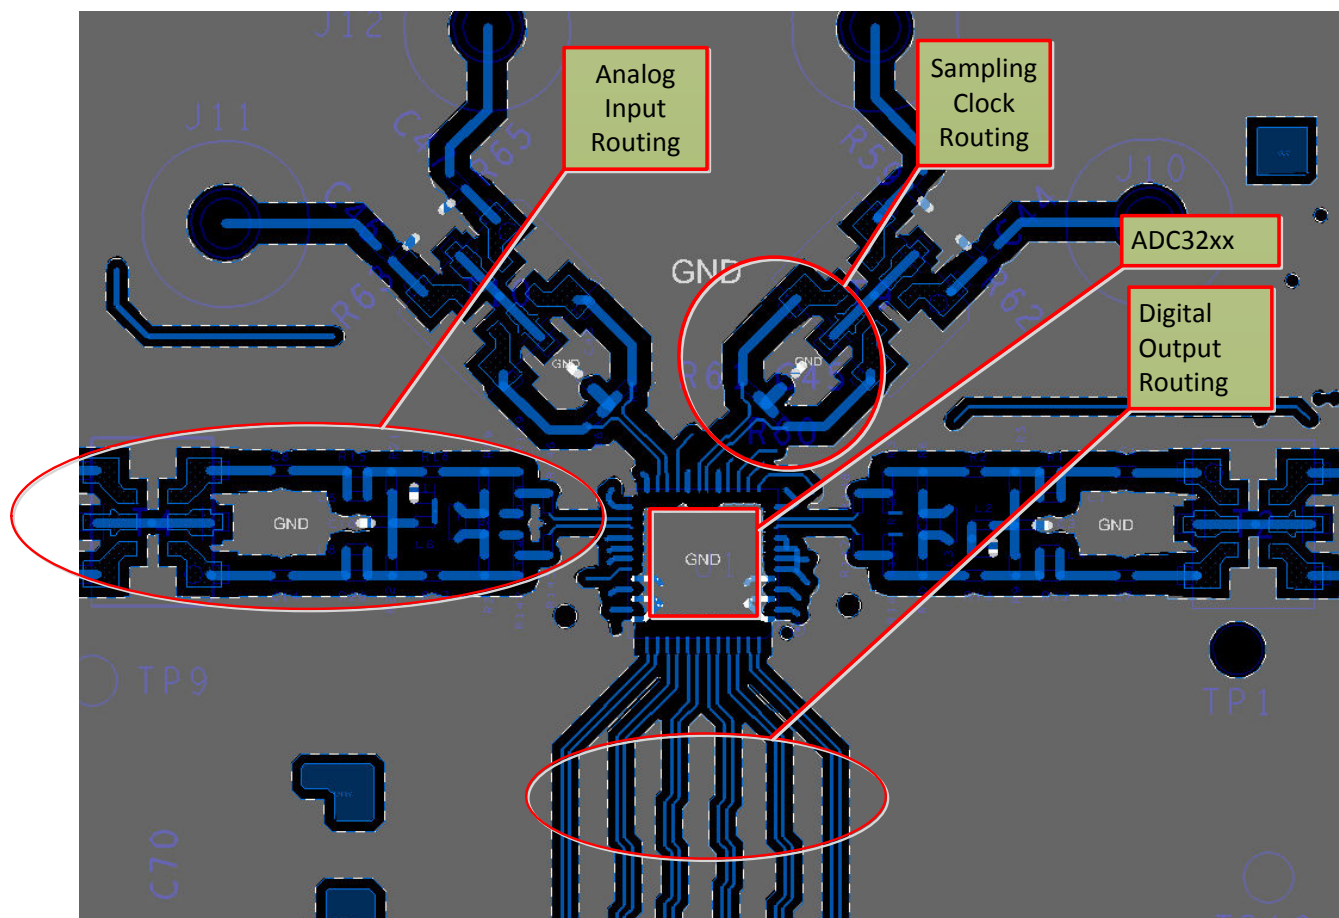

Figure 9-9. Typical Layout of the ADC322x Board
The ADC322x EVM layout can be used as a reference layout to obtain the best performance. A layout diagram of the EVM top layer is provided in Figure 9-9. Some important points to remember during laying out the board are:
1. Analog inputs are located on opposite sides of the device pin out to make sure minimum crosstalk on the package level. To minimize crosstalk onboard, the analog inputs must exit the pin out in opposite directions, as shown in the reference layout of Figure 9-9 as much as possible.
2. In the device pin out, the sampling clock is located on a side perpendicular to the analog inputs in order to minimize coupling between them. This configuration is also maintained on the reference layout of Figure 9-9 as much as possible.